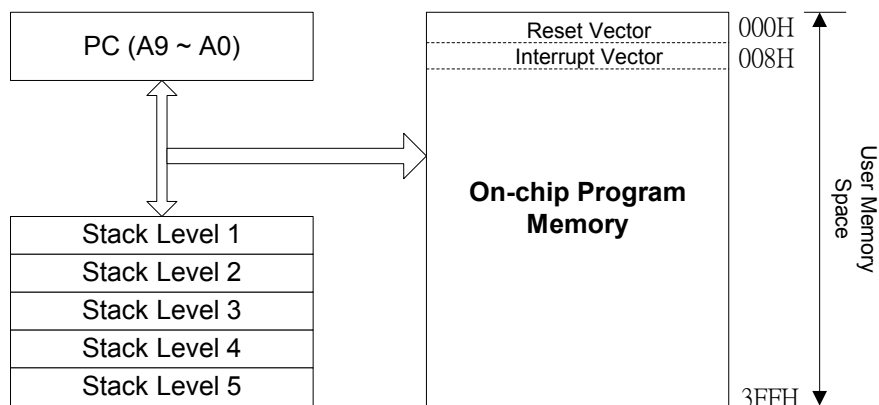

Fig. 3 Program counter organization
- Depending on the device type, R2 and hardware stack are 10-bit wide. The structure is depicted in Fig.3.